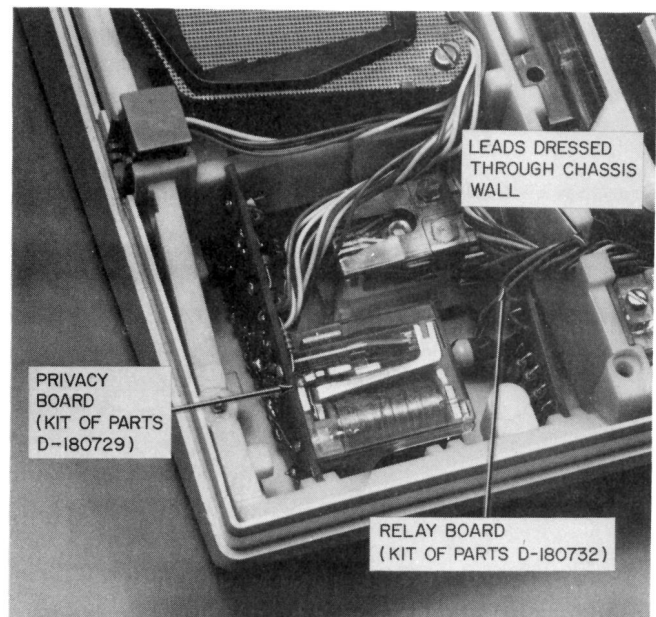

Fig. 33—Privacy and Relay Boards Installed in Telephone Set
- (b) Mount the privacy board in the lower left corner of the chassis by sliding it into the two notches with its relay to the right (Fig. 33).